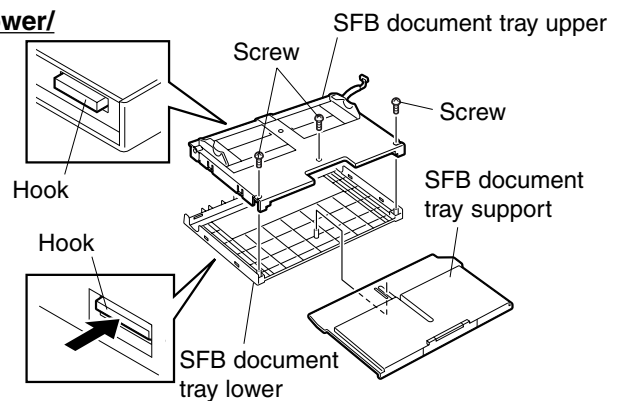

**Fig. 6-6**
(See Fig. 6-6)
2. Remove SFB document tray assembly. (See Fig. 6-6)
- Remove SFB document tray assembly. (See Fig. 6-6)